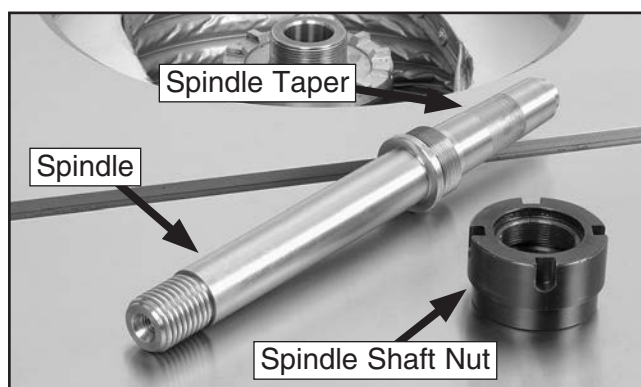

Figure 58. Spindle shaft nut separated from the spindle.
9. Taking care not to damage the spindle or the precision threads, remove the shaft nut from the spindle (see **Figure 58**).